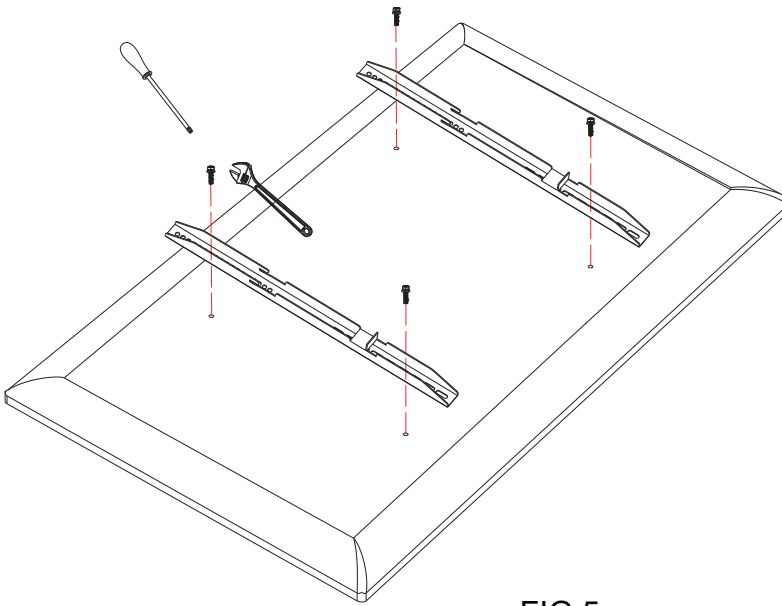

FIG 5
Step 5: Lock the wall hangers on the whole machine according to the actual requirements of the whole machine.(Refer to figure 5)